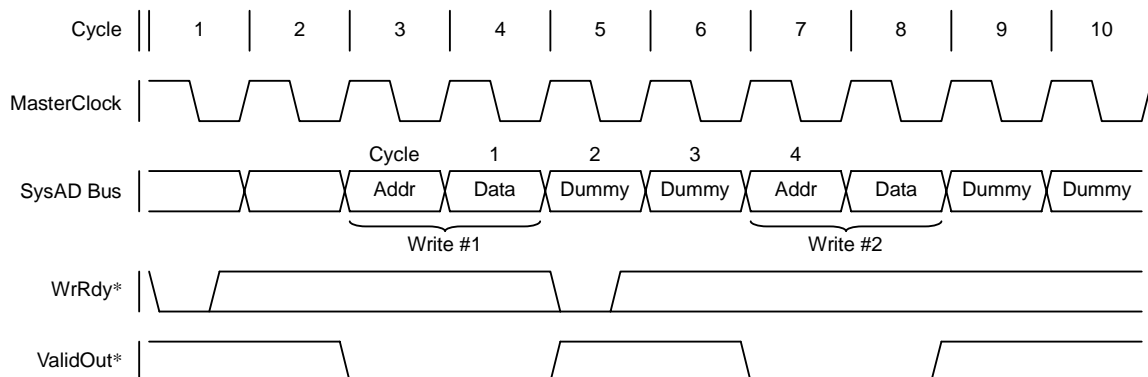

Figure 11.2.6 Timing of Consecutive Write Cycles
- When in the R4000 compatible mode, after a write request is issued, at least 4 cycles must pass from when the write request issue cycle is complete until the processor can issue the next request. This is because two dummy system cycles are inserted as illustrated in Figure 11.2.6 by consecutive write requests of single data cycles.